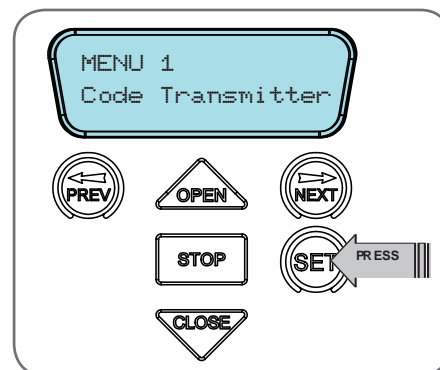

Fig F.1
- Press NEXT to navigate to Menu 1 (**Fig. F.1**).